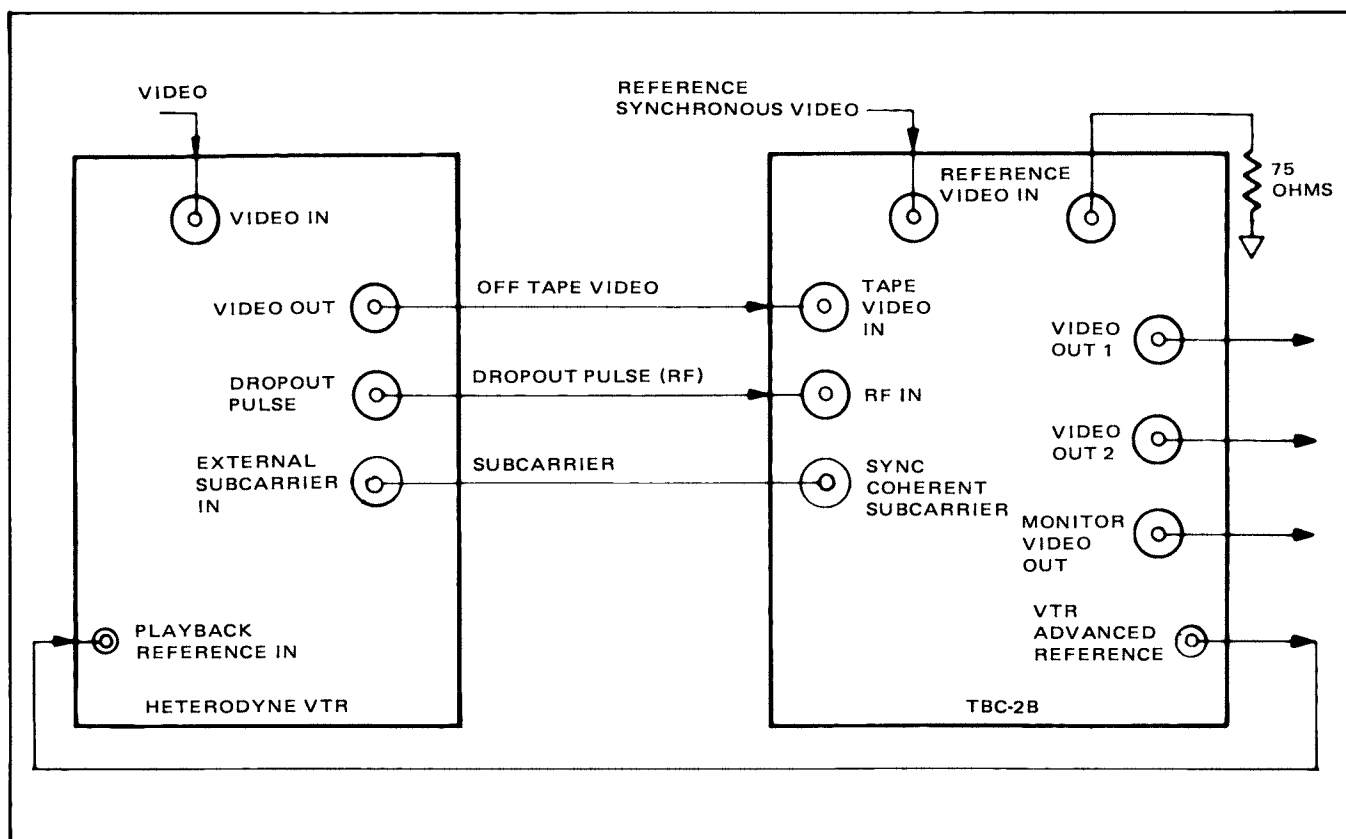

Figure 2-8. TBC-2B/Two-Wire Heterodyne VTR Installation
- Interconnect the TBC-2B in accordance with Figure 2-8.